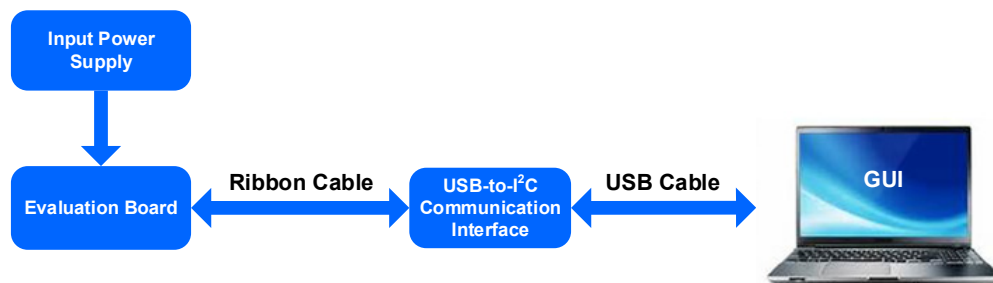

Figure 1: I²C Evaluation Kit Set-Up
7. To use the enable (EN) function, apply a digital input to the EN pin. Pull EN above 1.23V to turn the regulator on; pull EN below 0.44V to turn it off. If the enable function is not used, EN can be connected to the VIN pin through a 100kΩ resistor.
- d. Evaluate the device using the MPQ70700FS GUI, such as the turn-on delay and soft-start time (t_{SS}). Figure 1 shows the I²C evaluation kit set-up.